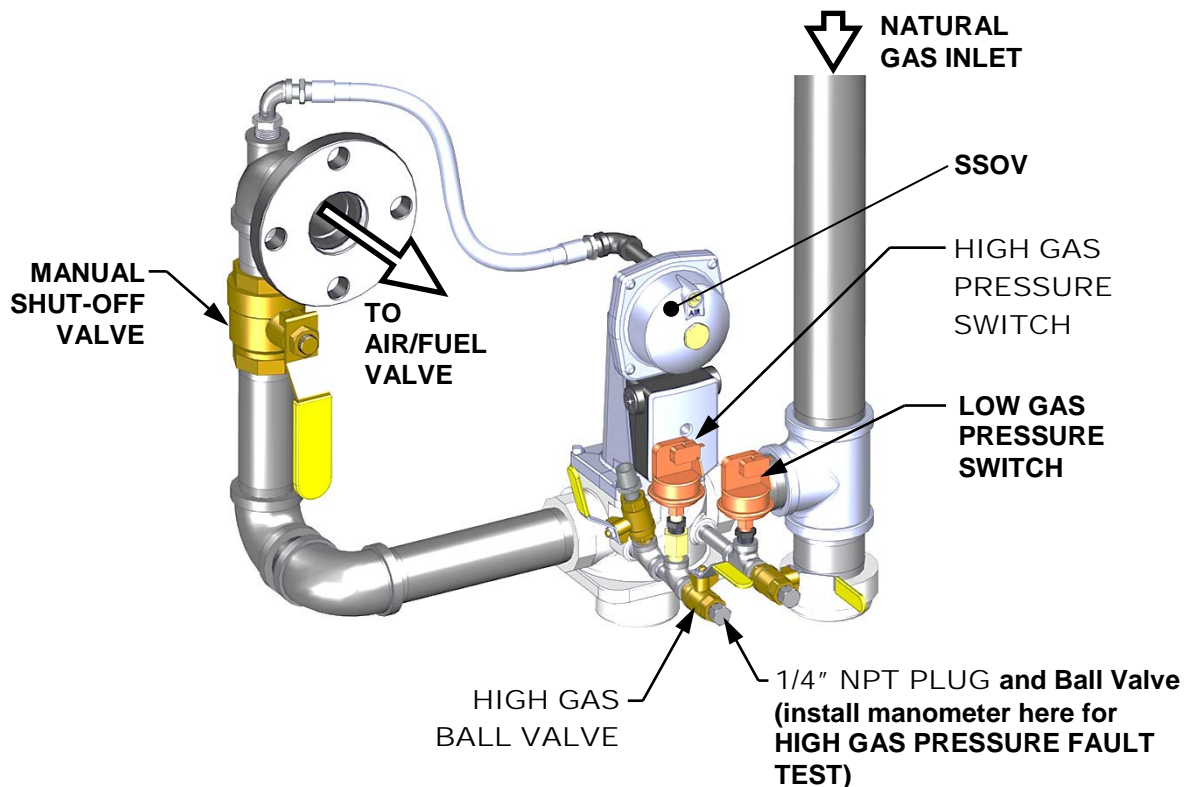

Figure 6-1b: BMK 1500/2000: *High Gas Pressure Fault Test*
To simulate a high gas pressure fault, refer to Figure 6-1b and perform the following steps:
1. Close the leak detection ball valve located at the high gas pressure switch (see Figure 6-1b).
2. Remove the 1/4" plug from the leak detection ball valve shown in Figure 6-1b.